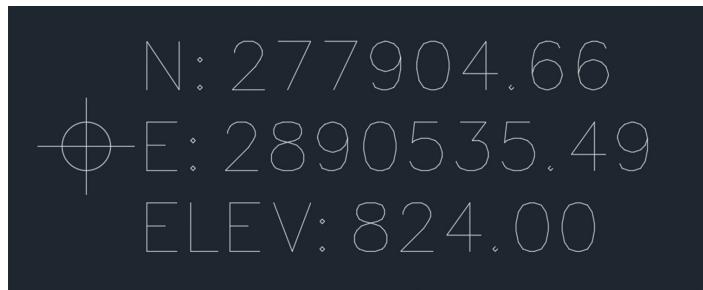

Figure 3
2. Once the building has been located on the site plan, the civil engineer (in all his magnanimous generosity) will create a Reference Point (RP) on the Site Plan for the architect.
3. This RP will show the Northing, Easting, and Elevation of some point on the site that will become the Site Reference Point between the Site Plan and Building Model (see Figure 3).